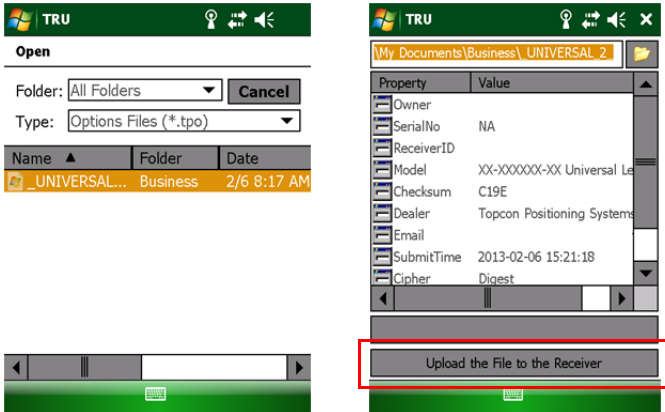
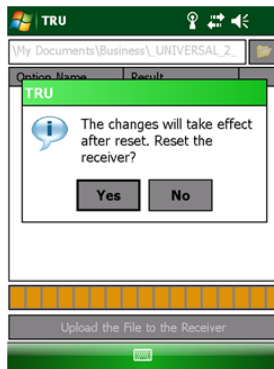

Figure 4-10. TRU – Uploading an OAF
Figure 4-11. TRU – Reset the Receiver
4. Press **Upload the File to the Receiver** (Figure 4-10) to begin uploading the file. When an OAF is uploaded to the receiver, TRU offers to reset the receiver to put the new authorization options into operation (Figure 4-11).